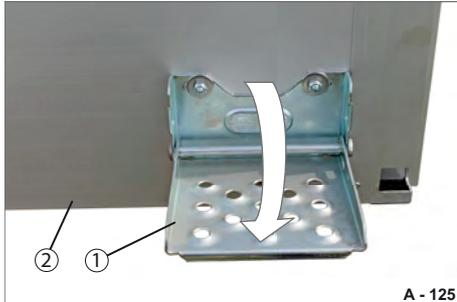

Fig. 181 Folding step, opened
- ▶ Unlock and fold down the rear platform gate (Fig. 181/2) - see page 170.
- ▶ Pull the step (Fig. 181/1) upwards and fold it down.